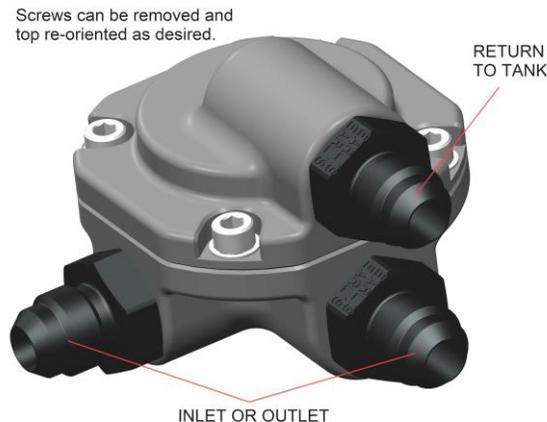

Figure 1
2. The return style regulators have three inlet/outlet ports and one return port. See **Figure 1**.
3. If installing prior to the TBI, connect the fuel line from the "out" side of the pump to the "in" side of the regulator (**Figure 1**). All fuel line connections must be leakproof. Supplied plug must be installed in any unused inlet/outlet port.